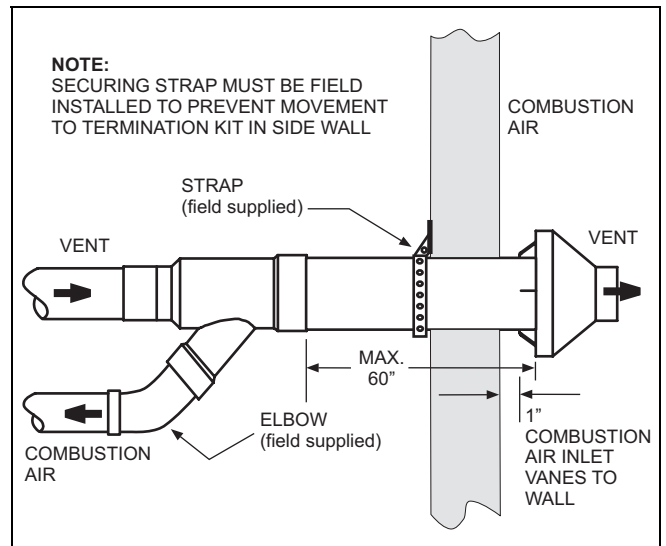

FIGURE 7 - Sidewall Termination Details for Concentric Vent
9. Secure assembly to structure as shown in Figure 7 using field supplied metal strapping or equivalent support material
NOTE: If assembly needs to be extended to allow side wall thickness requirement, the 2 pipes supplied in the kit may be replaced by using same diameter, field supplied SDR-26 PVC (D2241) pipe. Do not use Schedule 40 PVC or couplings to extend pipes. The additional wall thickness will restrict combustion air and may cause operational problems. Do not extend air inlet pipe more than 60 inches (Refer to Figure 7).
10. Cement furnace combustion air and vent pipes to concentric vent termination assembly. Refer to Figure 7 for proper pipe attachment.